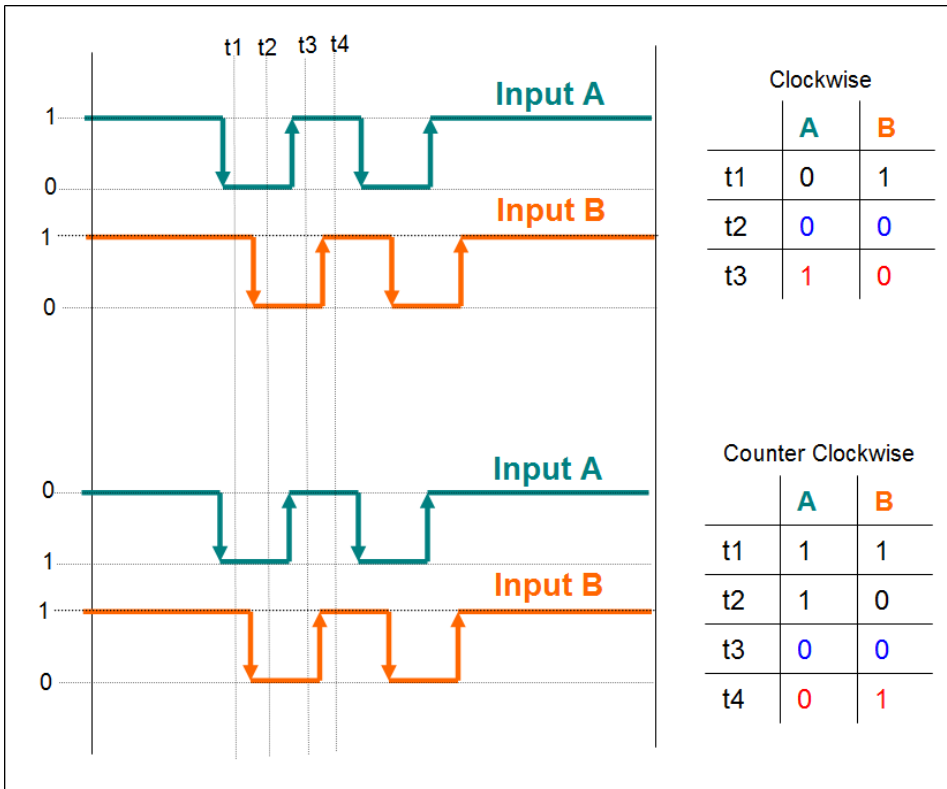

Figure 26: Polarity change of input signal "A" inverts the counting direction
- By changing the polarity of signal "A" for the quadrant counting mode (Figure 26) results in a change of counting direction.